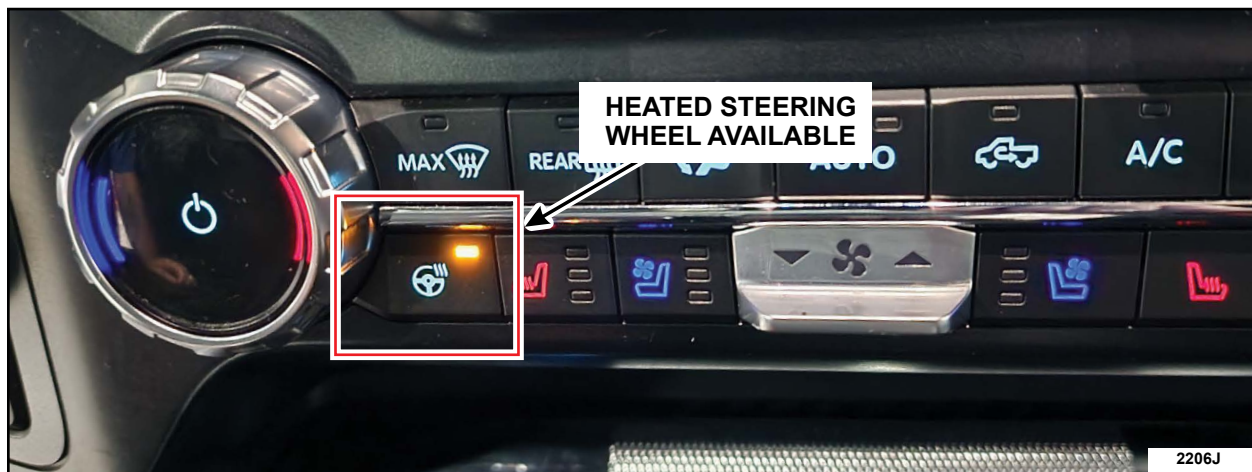

FIGURE 16
19. Start vehicle and verify that the heated steering wheel is functioning. See Figure 16.